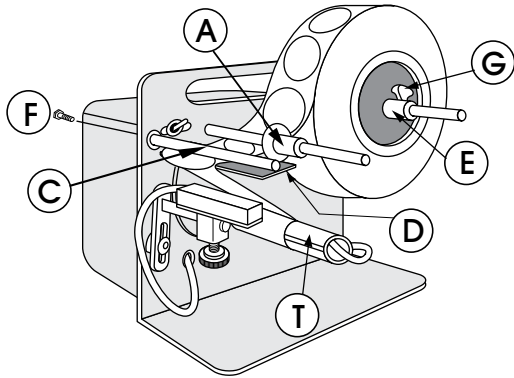

Figure 3
8. **Proper Dispensing:** label releases from the carrier paper and the front edge of the label is seen by the sensor of the eye causing the motor to stop. If the edge of the label is not seen, adjust the direction of the label advance. Loosen the socket head cap screw (F) with the larger Allen wrench included and tilt (D) up or down until the label correctly hits the sensor. Tighten screw. (See Figure 3)